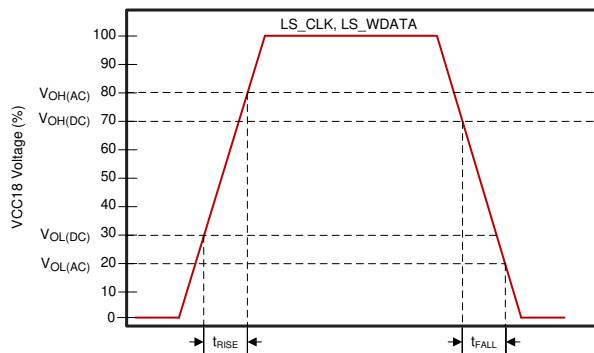
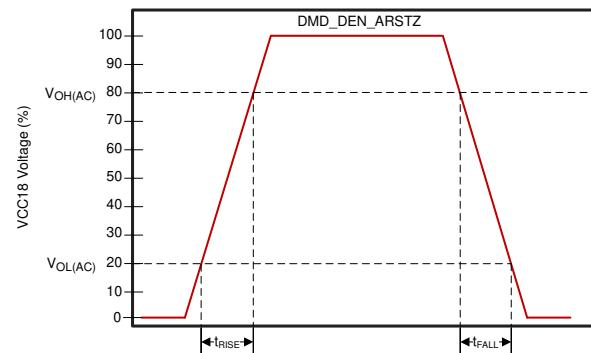

Figure 6-3. LS_CLK and LS_WDATA Slew Rate
Figure 6-4. DMD_DEN_ARSTZ Slew Rate
(3) See Figure 6-3 for DMD_LS_CLK, and DMD_LS_WDATA rise and fall times. See Figure 6-4 for DMD_DEN_ARSTZ rise and fall times.